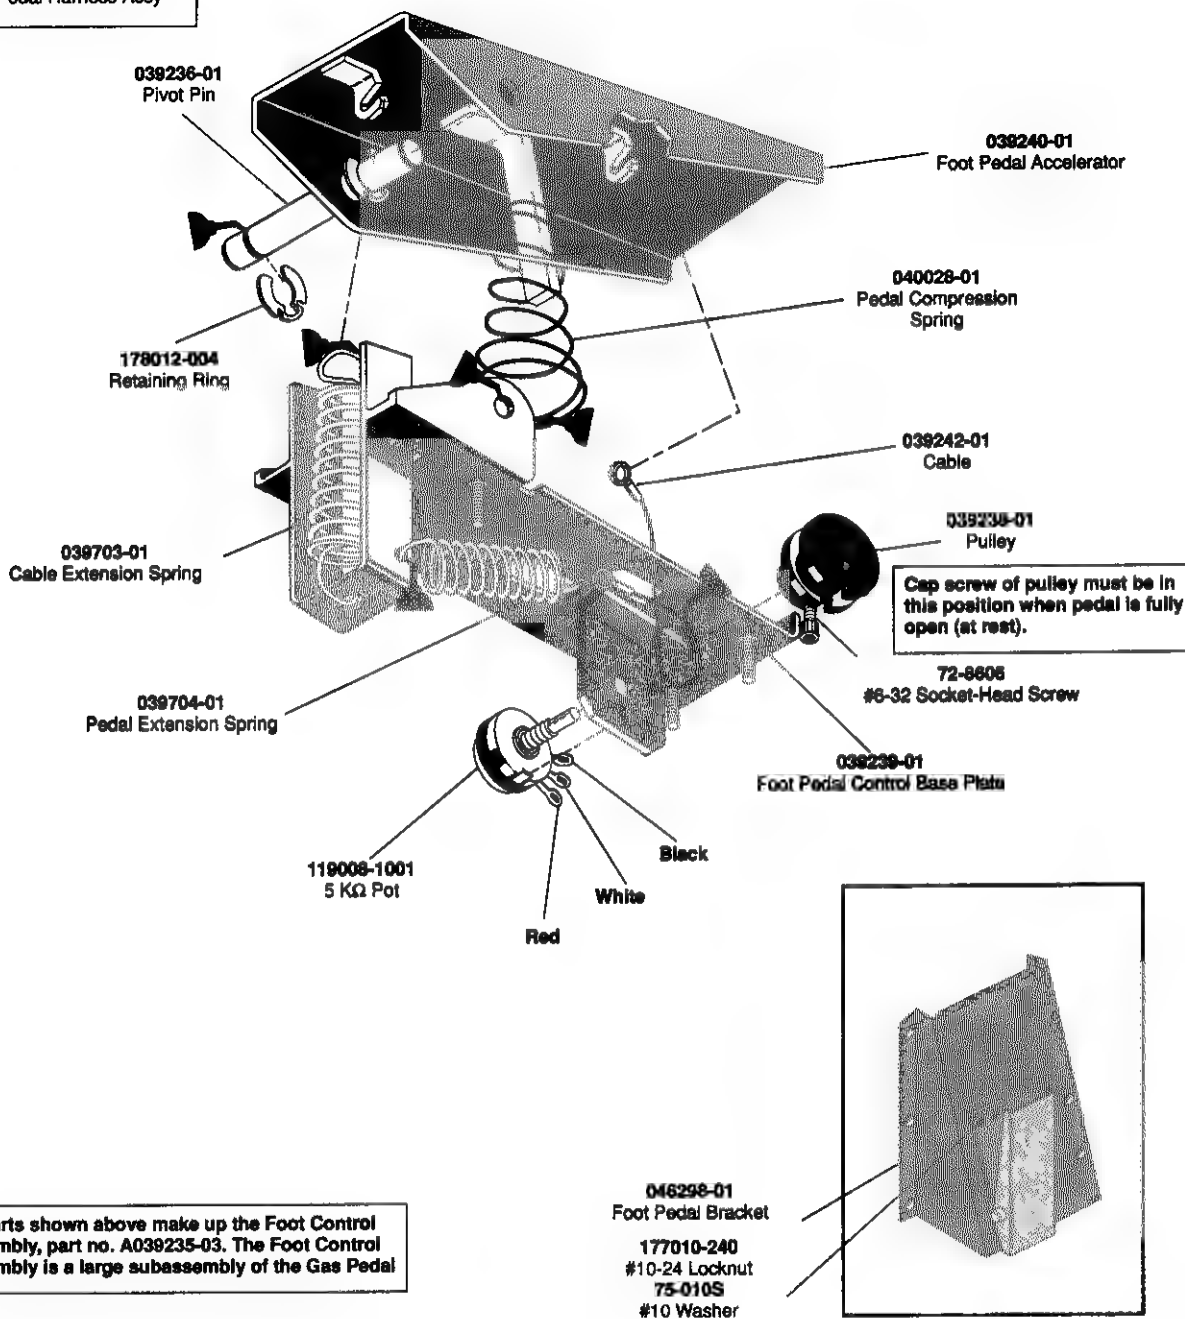

Figure 3-11 Maintaining the Gas Pedal
Maintain the gas pedal assembly by lubricating at the points shown in Figure 3-11.
3. Lay the pedal assembly on the bench, with the extension spring at the front. See Figure 3-11 for an illustration of the pedal.
3. Lay the pedal assembly on the bench, with the extension spring pointing up at the front. See Figure 3-11 for an illustration of the pedal.